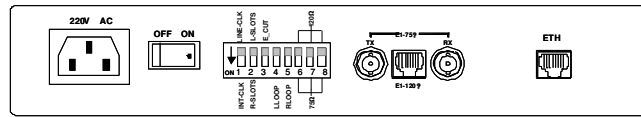

Figure 3 AC input rear panel of AN-FE1-ETH Bridge
- The AC input rear panel of AN-FE1-ETH Bridge is shown in figure 3.
The others are the same as in figure 3.
See figure 3 about the description of AC input rear panel of AN-FE1-ETH bridge for the functions of every component of the small panel.